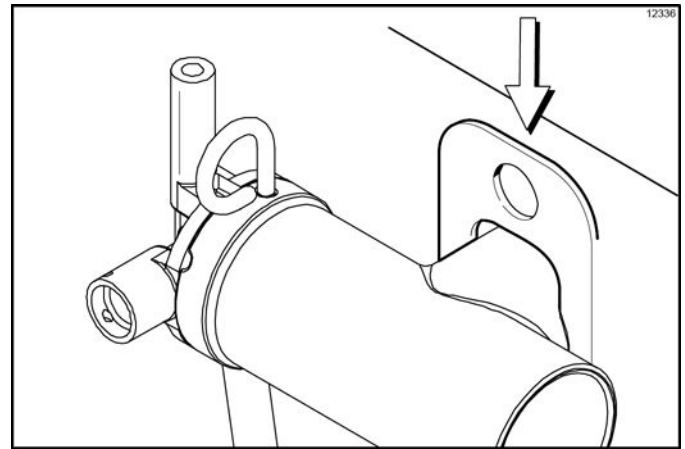

Figure 6-49
5. Install the air/mix pump assembly at the rear of the mix hopper. To position the pump on the drive hub, align the drive slot in the piston with the drive crank of the driveshaft. Secure the pump in place by slipping the pump clip over the collar of the pump, making sure the clip fits into the grooves in the collar. (See Figure 6-49.)